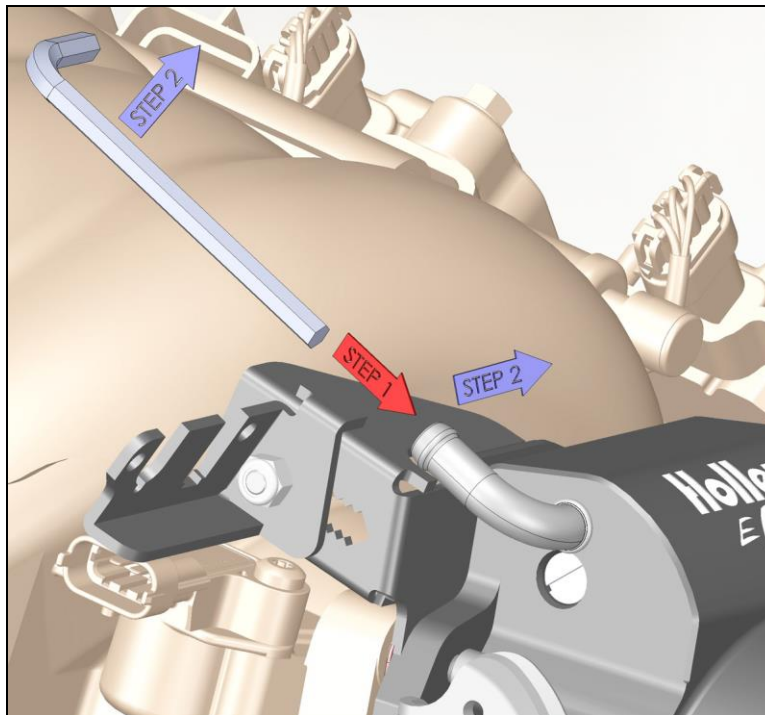

Figure 4
6. If the throttle body PCV tube needs to be repositioned (**Figure 4**), insert a 7/32 hex key into the tube (**STEP 1**) and then push both in towards the throttle body and up as needed (**STEP 2**).